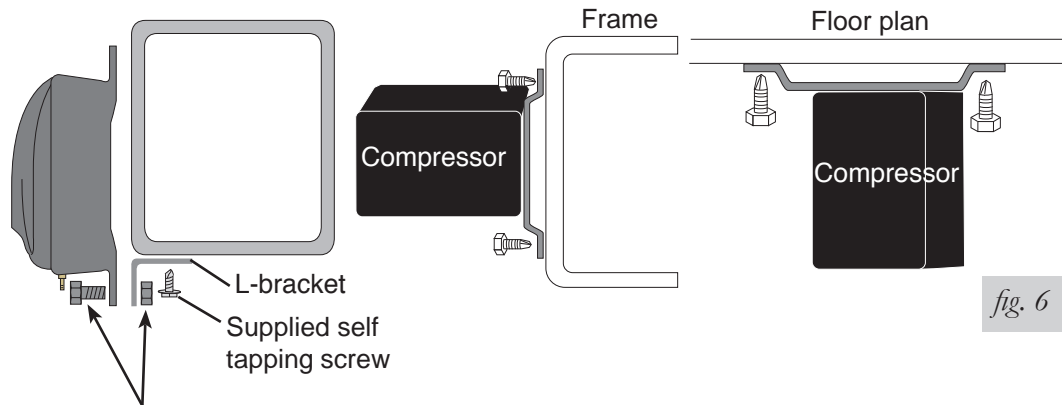

fig. 6
- a. Hold the compressor in the recommended location (fig. 6) and use the provided silver self tapping screws to attach the mounting brackets to the vehicle.
- c. For box frames: In some cases the frame section will not be wide enough to mount the compressor legs flat to the rail. Refer to fig. 6 in this situation.